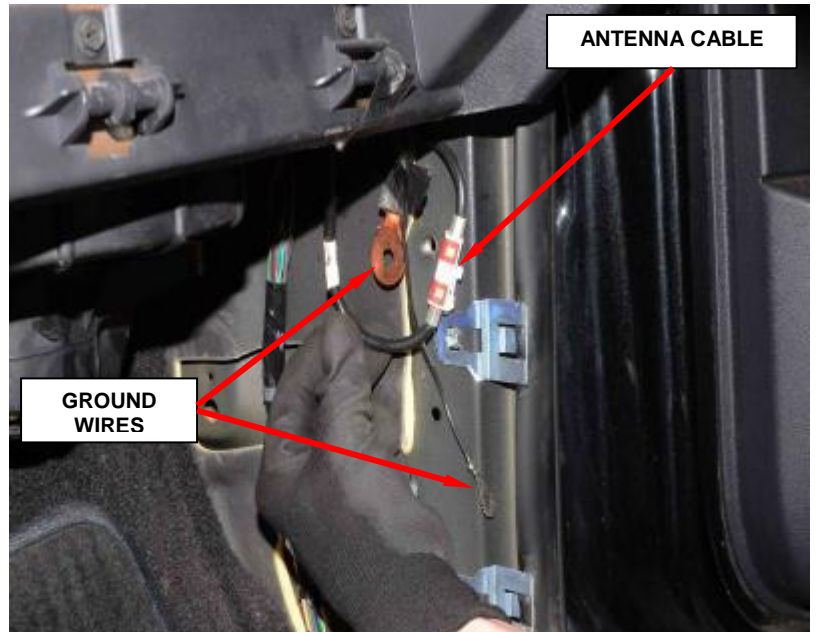
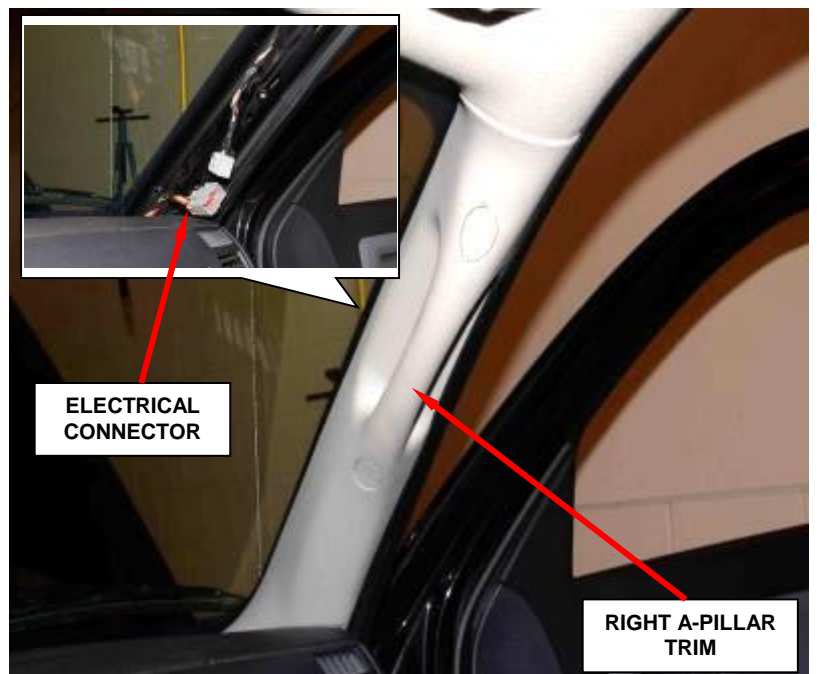

Figure 98 – Ground Bolt and Nut
Figure 99 – A-Pillar Trim (Right Side Shown)
26. Remove the bolt and nut and disconnect the grounds on the right A-pillar (Figure 98).
27. Disconnect the antenna cable (98).
28. Remove the right and left side A-pillar trim (Figure 99).
29. Disconnect the right side A-pillar electrical connector (Figure 99).